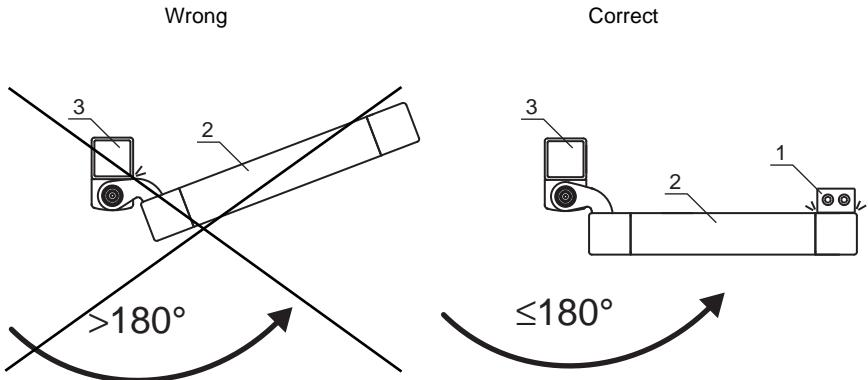

Figure 6.2: Mechanical limit stop (1) for the moving part of the protective device
- ↳ Use separate mechanical limit stop (see figure 6.2).